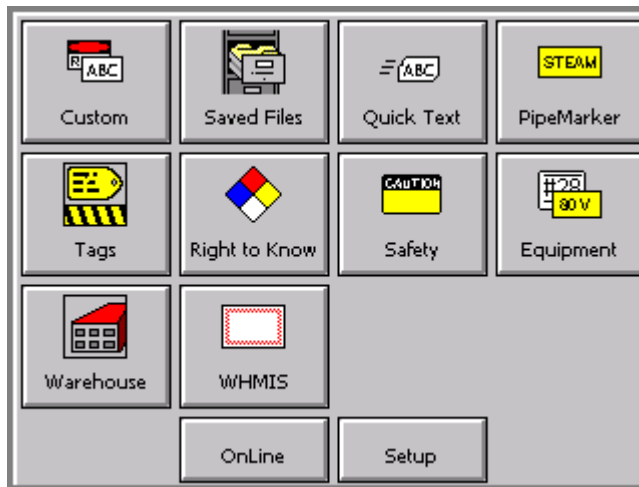

Figure 6-1. The Main Menu screen
QuickText helps you create plain text labels very quickly. When you choose **QuickText** on the **Main Menu** screen (Figure 6-1), all you have to do to create a label is enter your text.
1. Choose **QuickText** from the **Main Menu** screen (Figure 6-1 on page 6-2).
The templates are organized in groups of similar designs, called applications, which are listed on the system's **Main Menu** screen (as seen in Figure 6-1 on page 6-2). With the exception of the Custom application and the QuickText application, each application contains one or more categories of pre-designed templates, and are referred to as *template-based applications*.
1. On the **Main Menu** screen (Figure 6-1), select the application for the label you want to create.